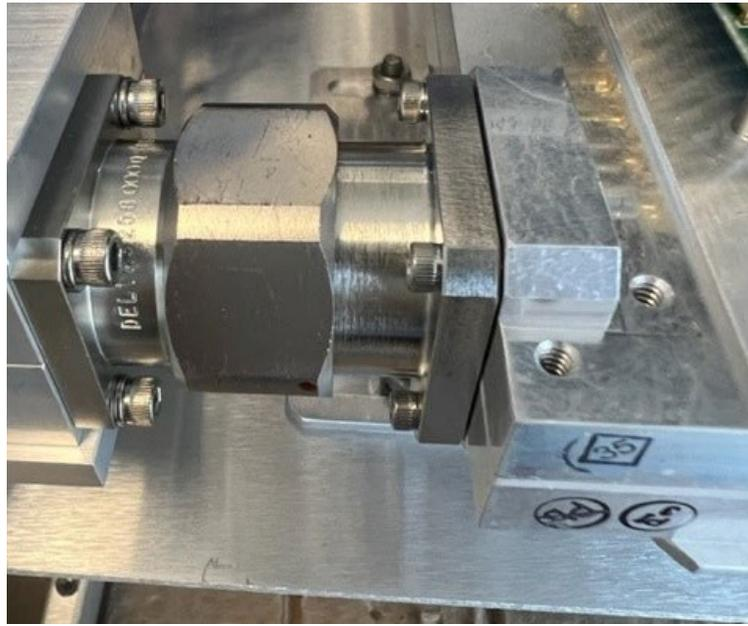

Figure 3
6. Observe the connection between the directional coupler and combiner (Figure 3).